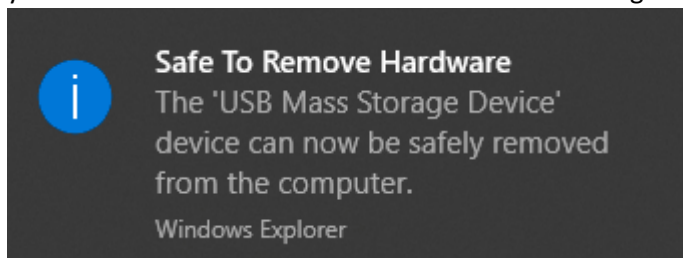

Figure 4
10. Right click this icon and select the option to eject. Wait until you see the message (fig. 4) telling you it is safe to remove the USB before disconnecting the USB drive from the computer.